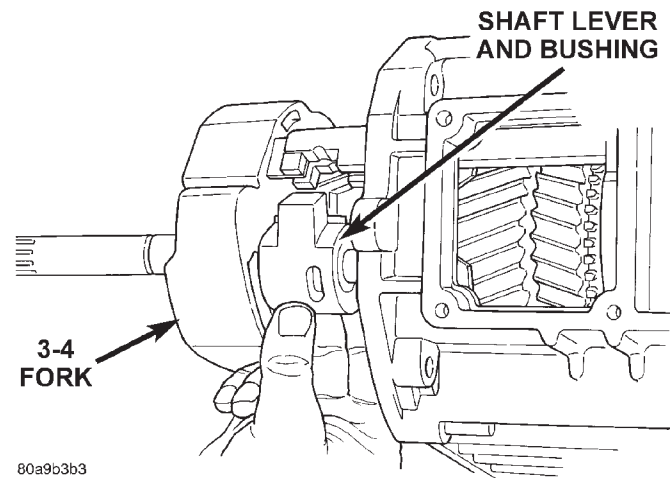

Fig. 25 Removing Shift Shaft Lever And Bushing
(7) Remove lever and bushing (Fig. 25).